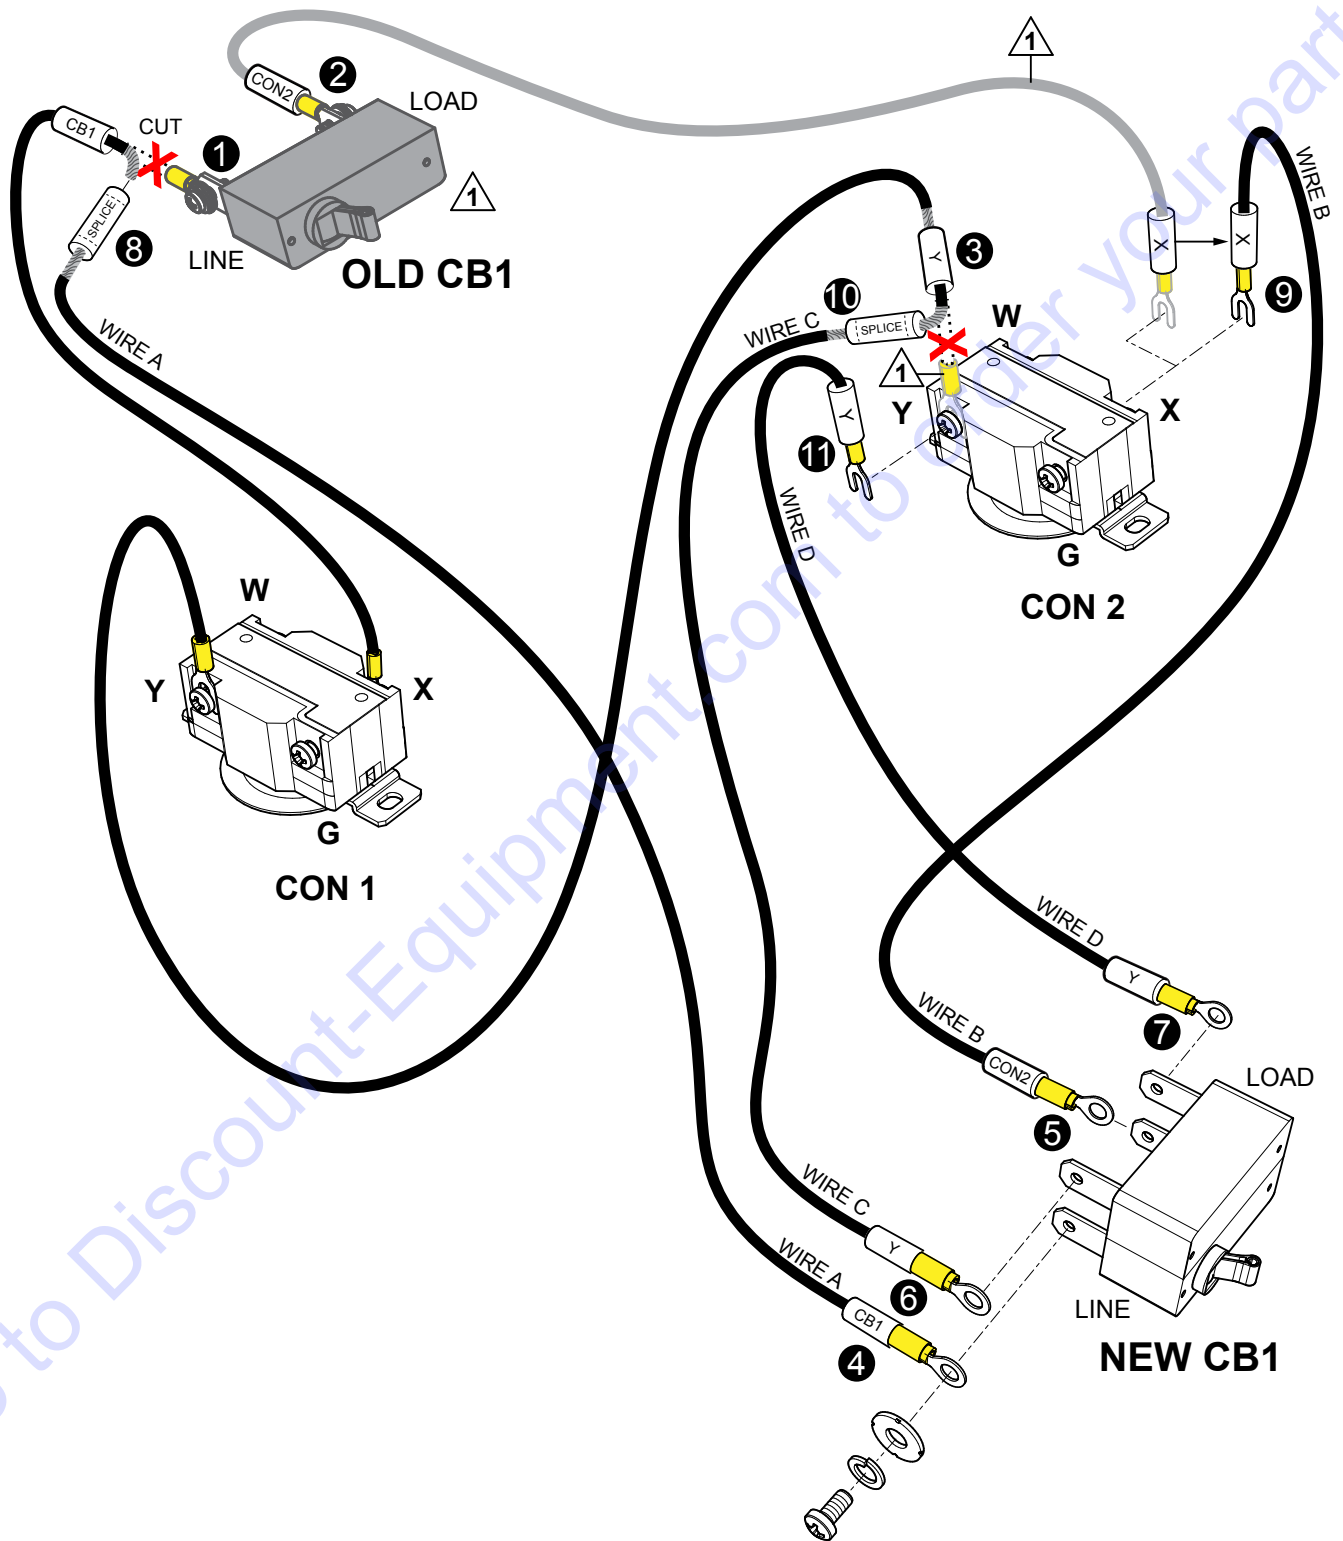

Figure 5. Disconnecting OLD CB1 and Connecting NEW CB1
Refer to Figure 5 for location of connections and Figure 11 for wiring diagram.
1. Locate the wire marked CB1 connected to the circuit breaker CB1 on the generator (Figure 5 ①). Cut the wire as close to the circuit breaker as possible. Strip the wire about 1/4 inch and install a butt splice on the end of the wire.
3. Locate the wire marked CON2 connecting the circuit breaker CB1 to connector CON2 X (Figure 5 ②). Remove and discard this wire and circuit breaker CB1.
4. Locate the wire marked Y connected to connector CON2 Y (Figure 5 ③). Cut the wire as close to the Y connector as possible. Strip wire about 1/4 inch and install a butt splice on the end of this wire. Remove and discard Y connector.